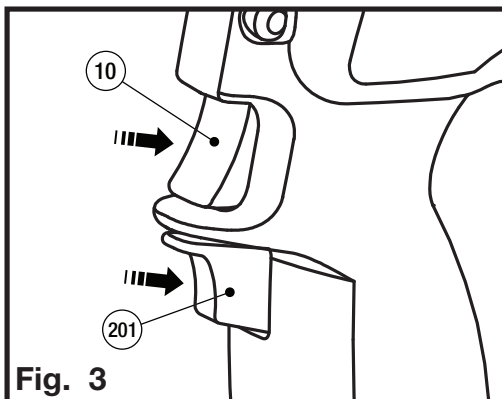

Fig. 3
2.2 DIE ADVANCEMENT (Refer to Fig. 3)
- Press the operating button (10) to activate the motor-pump and advance the lower die. To halt the advancement, release the operating button (10) and the motor will stop.